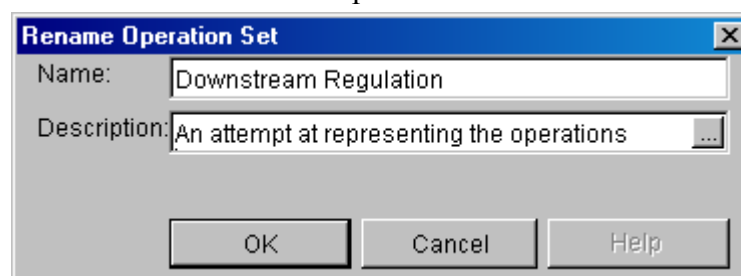

Figure 11.3 Rename Operation Set Dialog Box
1. Select **Rename** from the **Operations** menu of the Reservoir Editor. The **Rename Operation Set** dialog box will open (Figure 11.3).